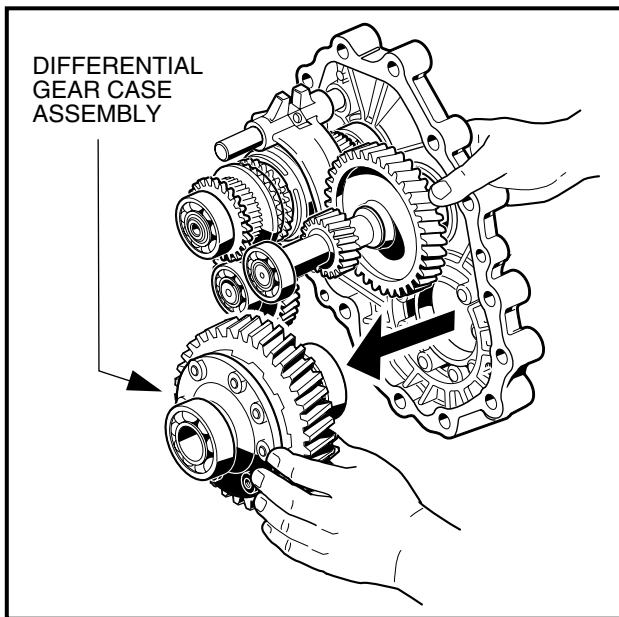

Figure 16b-44 Remove Differential Gear Case
14. Use a seal puller (CCI P/N 1012809) or rolling head prybar to remove the input shaft oil seal from the case (**Figure 16b-46, Page 16b-20**).